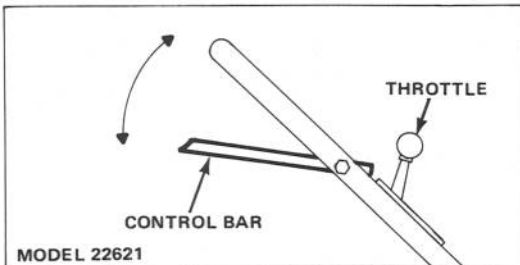

Figure 6
4. **STARTING (Model 22621)** — Move ground speed control to desired speed selection (Fig. 6) and throttle to **CHOKE**. Pull fingertip starter and
5. **TRACTION OPERATION (Model 22621)**— Squeeze control bar against handle to drive. Ground speed varies, depending on space between control bar and handle (Fig. 6).